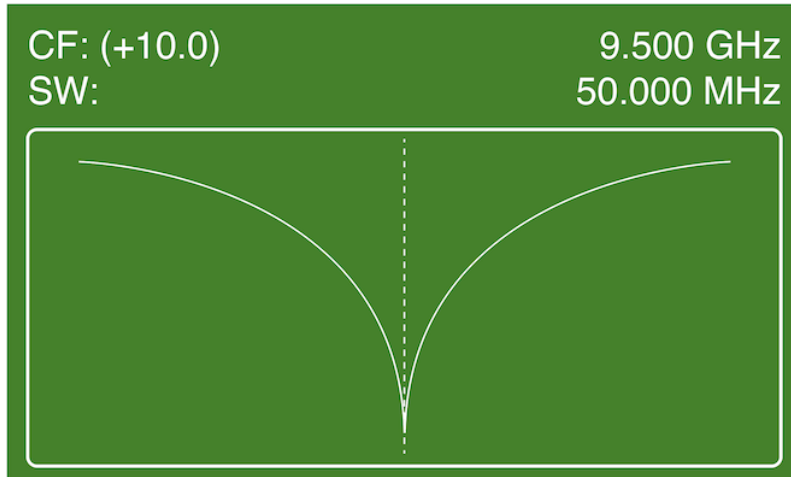

Figure 2.4: MPS Sweep Screen (the actual screen may differ depending on the installed firmware version)
A typical screen is shown in Figure 2.4. The top row indicates the center frequency (CF) of the sweep. In this case it is set to 9.5 GHz. The default microwave power to perform a sweep is set to 10 dBm. Other values can be set through the serial interface. If the RF sweep power not equal to 10 dBm, the actual value is shown in parentheses.
To tune the resonator first switch to the Sweep Screen (see Figure 2.4). If this is the first time that the sweep screen is entered, no sweep data is available and only a flat line at the bottom of the sweep screen is displayed. To perform a cavity sweep: